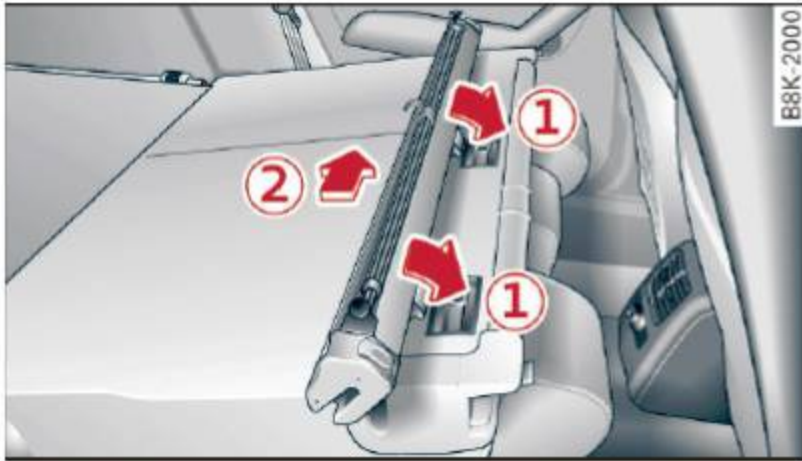

Fig. 79 Folded backrest: installing the partition net
- ▶ Affix the partition net to the recesses on the retaining rails ① ⇒ fig. 79 and slide it towards the left side of the vehicle until it latches ②.
- ▶ Slide the partition net to the right and lift it out of the retaining rails ⇒ fig. 79.